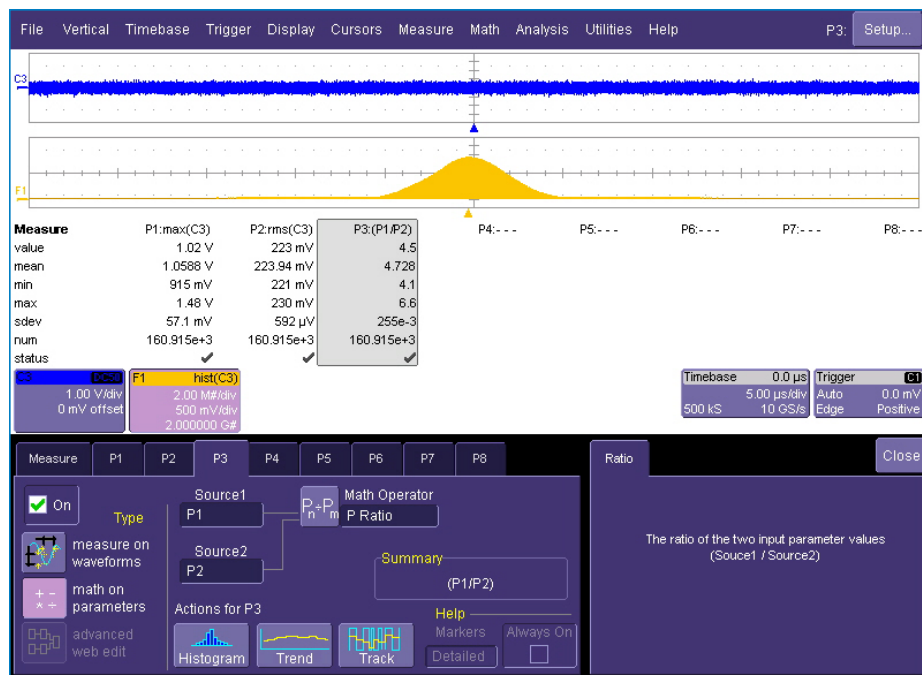

Figure 7
19. Choose the "Math Operator" to "Pn / Pm" (see Figure 7).